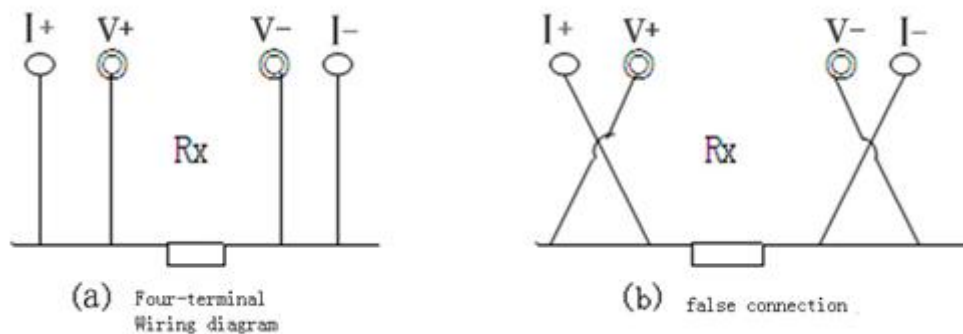

Figure 3 Four-terminal Wiring diagram
1、Wire as showed in the Figure 3.